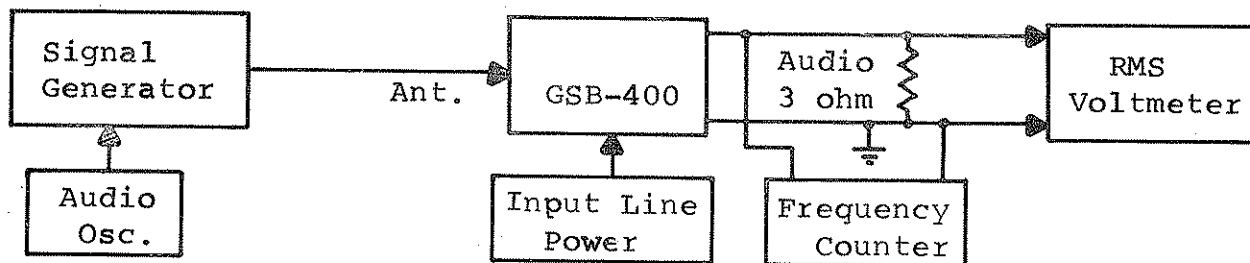

Figure 4
- (1) Follow steps 1 through 4 of Paragraph D-1-a.
(2) Connect test equipment as shown in Figure 4.